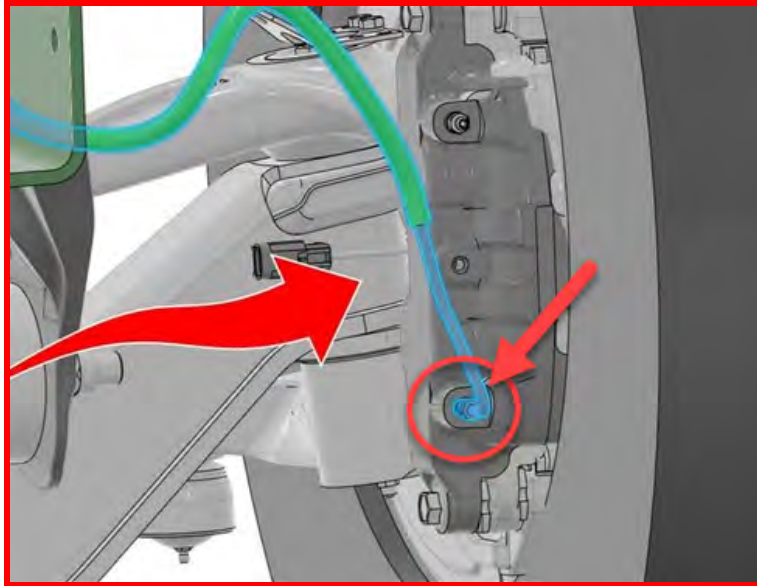

Figure 16 - Rubber Brake Hose-to-Caliper Fitting
1. Loosen the front brake rubber hose fitting at the caliper (Figure 16) enough (Likely less than one full turn) to allow the steel line to rotate without deforming the steel line.